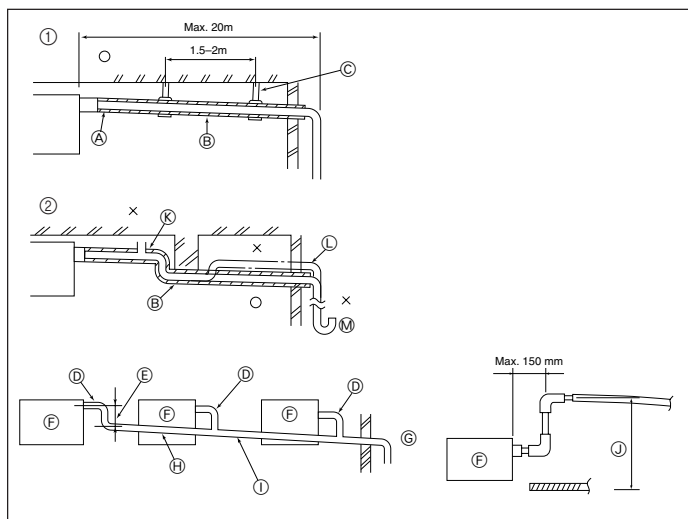

Fig. 6-1
6.1. Drainage piping work (Fig. 6-1)